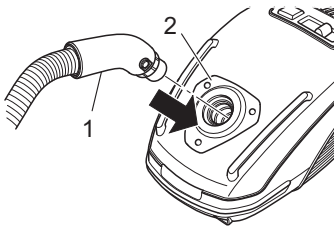

Fig. 2
1. Push the end of the suction hose (Fig. 2/1) into the connection point (Fig. 2/2) of the cylinder vacuum cleaner until the lock audibly clicks into place.